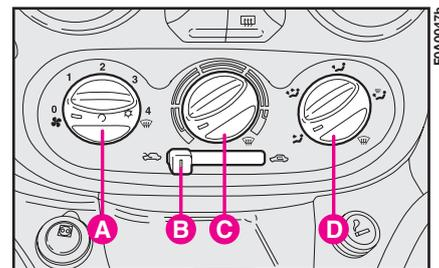

fig. 78
If the vehicle has a climate control system, you are recommended to adjust the controls as described above and press button **A-fig. 78** to speed up the demisting process.
### CONTROLS fig. 78
**IMPORTANT** The manual climate control system is very useful for speeding up the demisting process because it dries the air. Simply adjust the controls for the demisting function (see previous section) and switch the manual climate control system on by pressing knob **A**-fig. 78.
5) Climate control system: press knob **C**-fig. 78.